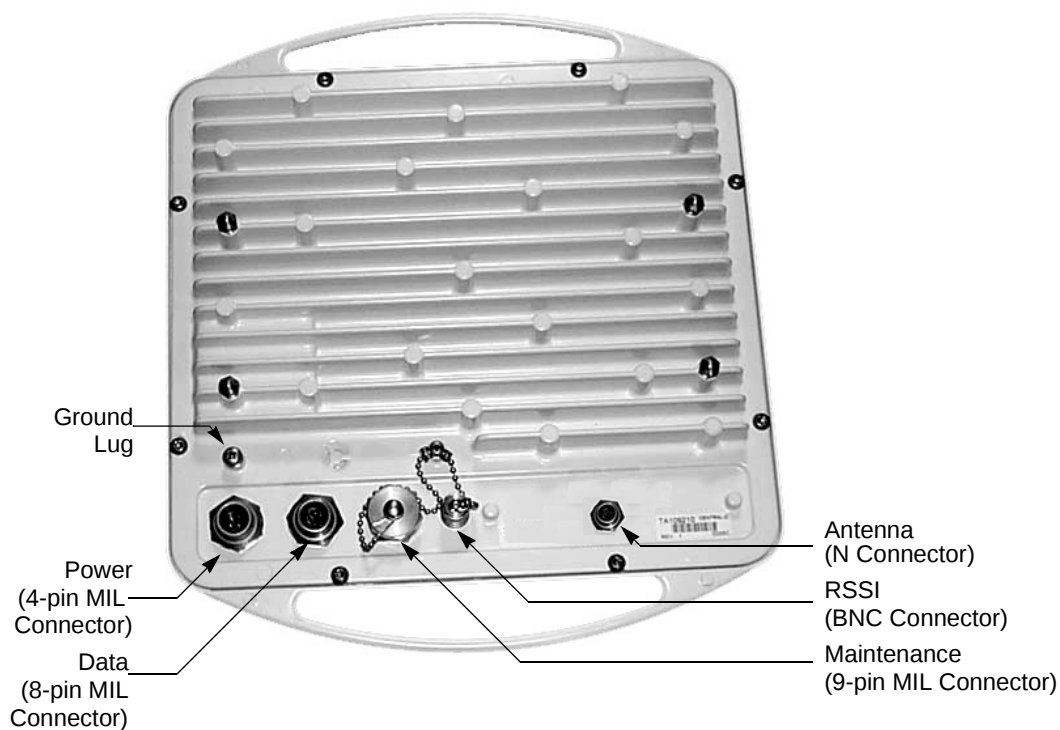

Figure 2-8. Central Router Connector Locations
The data section of the cable consists of four twisted pairs of #24 AWG conductors meeting Category 3 specifications, gel-filled, and surrounded by foil and braid shields. The cable comes terminated on the “inside” end with an RJ-45 connector wired according to the EIA/TIA T568B standard. The “outside” end is terminated with an 8-pin circular MIL connector. To terminate the indoor end at a punch-down block or lightning suppressor, the installer can cut off the connector and strip the jacket, shields, and conductors as needed. The router connector locations are shown on Figure 2-8.
1. Ground the router enclosure at the grounding lug (see Figure 2-8) or any other point.